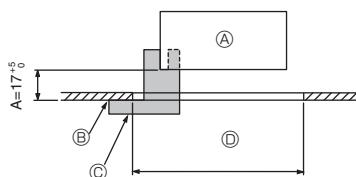

Fig. 9-2
9.2. Preparing to attach the grille (Fig. 9-2)
- With the gauge ③ supplied with this kit, adjust and check the positioning of the unit relative to the ceiling. If the unit is not properly positioned relative to the ceiling, it may allow air leaks or cause condensation to collect.